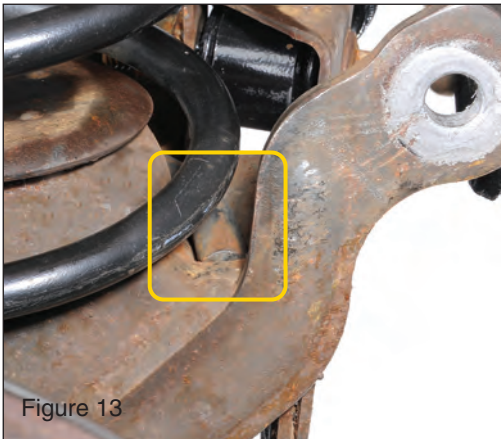

Figure 13
*Re install coil spring and index on bottom mount as shown (see FIG 13)*